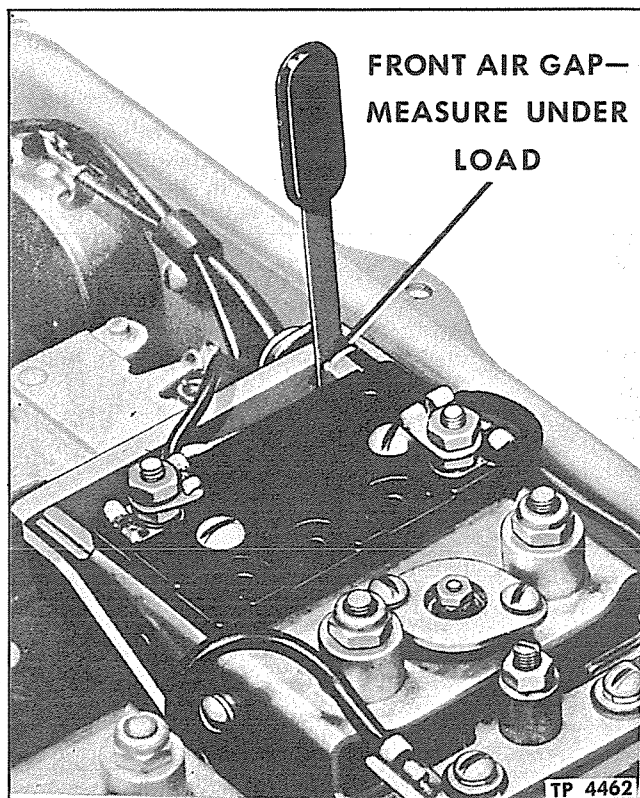
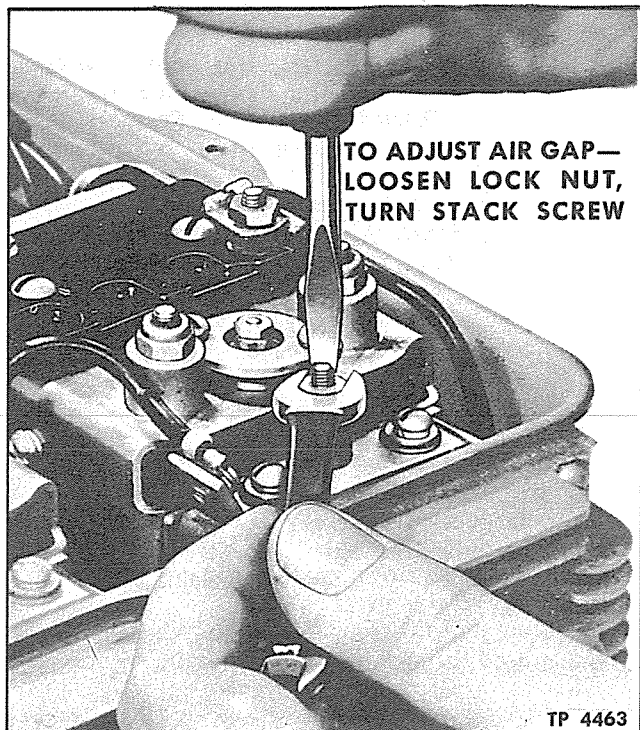

Figure 20—Voltage Regulator Front Air Gap Check
Figure 21—Adjusting Front Air Gap on Voltage Regulator
9. Check front air gap (fig. 20) of voltage regulator, using non-magnetic feeler gauge.
10. Adjust air gap, if necessary, by loosening the lock nut then turning stack adjusting screw (fig. 21). Tighten lock nut when correct adjustment is obtained.
7. Check front air gap with non-magnetic feeler gauge (fig.20). Adjust front air gap if necessary by loosening lock nut and turning stack adjusting screw (fig.21). Set lock nut when adjustment is completed.